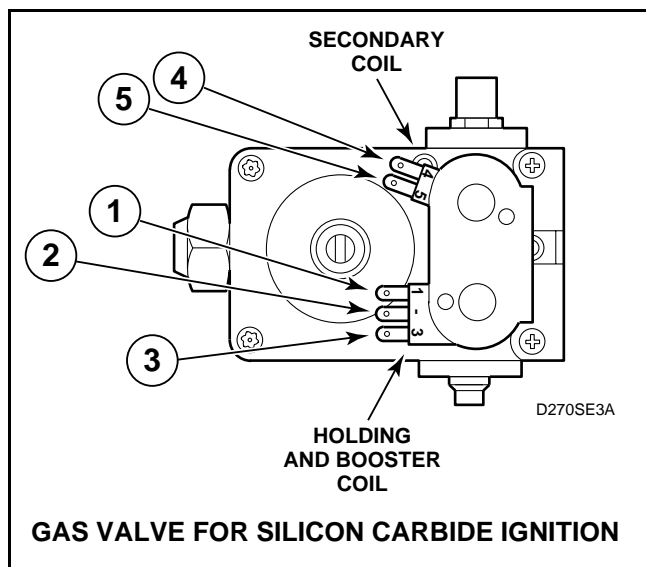

Figure 39
- Remove valve wire harness disconnect block from the holding and booster coil. See *Figure 39*.
- Set test meter to read Ohms and put meter probes to terminals as in *Figure 39*, and in the following chart.